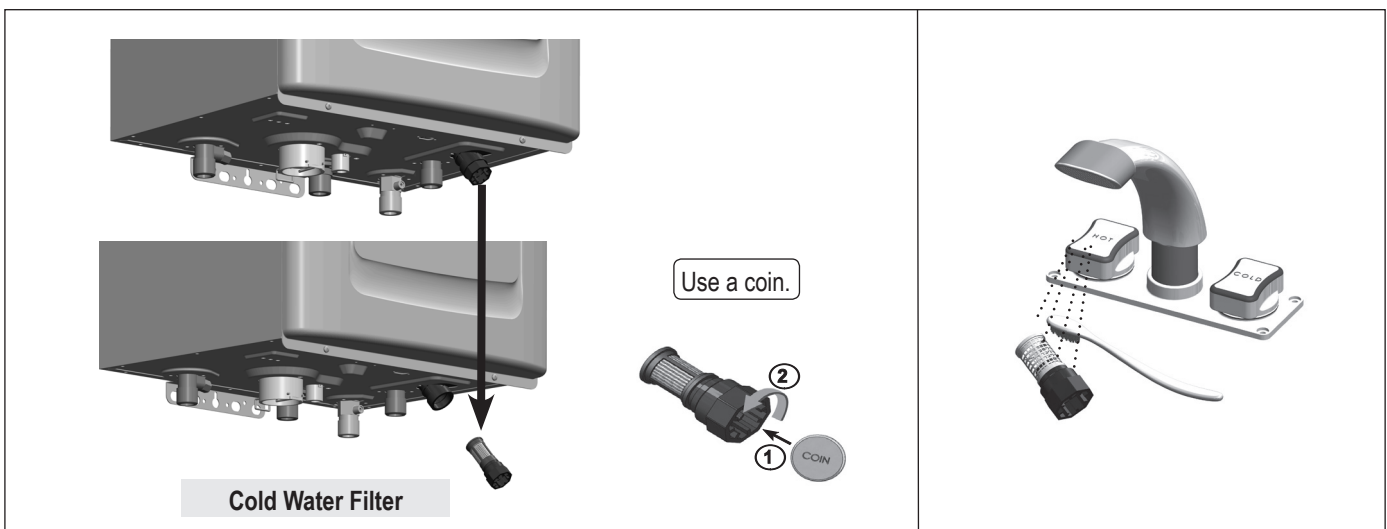

Figure 56 – Draining the Water Heater
5. Use a coin to remove the cold water inlet filter. Then clean it with a toothbrush and clean running water. See Figure 56.